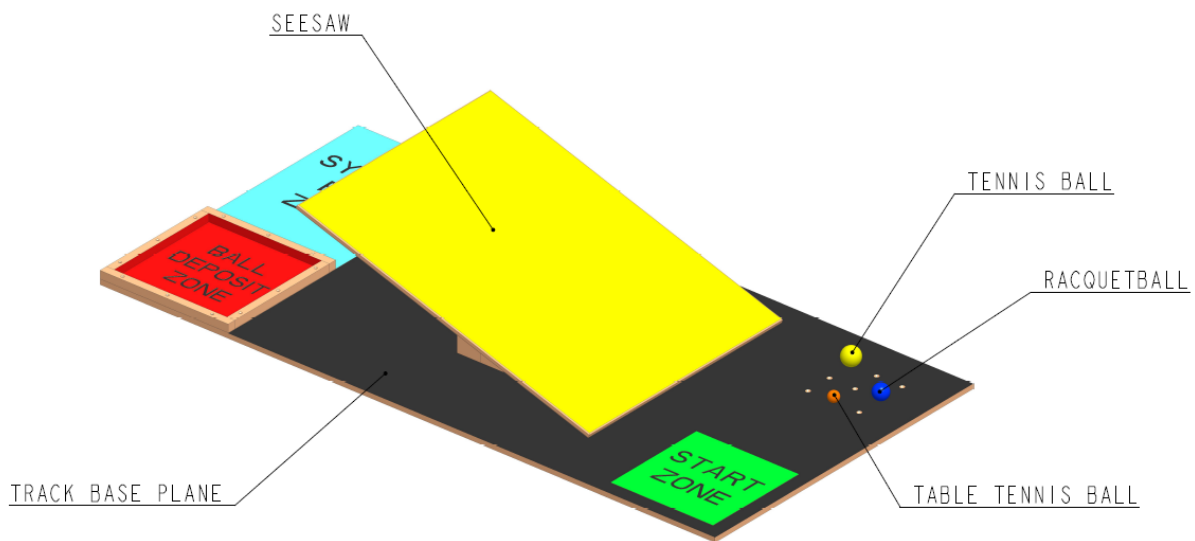

Figure 1. Schematic view of the 2025 Competition Track showing the track base plane, SEESAW, ball deposit zone and system end zone.
Prototype a reduced scale, proof-of-concept transport system, later referred to as the "system", which will precisely deliver scale representations of the meteorites, from their respective settling zones to the storage bunker. Referring to Figure 1, the autonomous system will start from a safe area defined by the Start Zone. The meteorites will be simulated using a tennis ball, a racquetball and a table tennis ball (hence forth referred to as "balls") which will be randomly distributed in a 3 x 3 grid. The system must traverse narrow gaps and potentially unstable terrain which is simulated by a pivoting plane or seesaw. Size constraints require your system to fit within an imaginary 400 mm sided cube. When activated via a single starting action, your system will autonomously collect the balls, negotiate the seesaw, or narrow gaps and deliver them to the storage bunker, shown as the ball deposit zone. The maximum allowed time for the operation is 120 seconds.
- G 8. The track will be fabricated using primarily one sheet of F14 Formply, with nominal dimensions 2400 x 1200 x 17 mm, arranged as shown in Figure 1 and Appendix A (Drawings). A supporting frame below this sheet, not shown, MAY be fabricated by any convenient method. The supporting frame SHALL NOT extend beyond the perimeter of the competition track.
- G 9. The pivoting SEESAW SHALL be made from Medium Density Fibreboard \(MDF\) or equivalent sheet material (MDF will be used at the International Final), with nominal dimensions 900 x 1200 x 18 mm, arranged as shown in Figure 1 (central yellow portion) and Appendix A (Drawings). The SEESAW SHALL preferentially tilt to the side shown in Figure 1. To provide teams with sufficient grip, the upper surface and external edge surfaces of the SEESAW SHALL be coated using Dy-Mark 1L Yellow TreadRite. It is recommended that the coating is initially applied using a paint brush and then rolled whilst still wet using a UNi-PRO 160 mm Jumbo Roller Microfiber. This ensures an even distribution of the coating to the top surface.
- G 12. The Ball Deposit Zone SHALL be made using 30 x 30 mm DAR with internal dimensions of 440 x 440 mm +/- 2 mm for the assembled component, refer to Appendix A (Drawings). The Ball Deposit Zone SHALL be rigidly attached to the track base with wood screws or similar where the top surface of the Ball Deposit Zone and the competition base plane SHALL be 30 mm +/- 2 mm, as shown in Figure 1.
- G 14. The Formply base sheet with relevant features attached, not including the balls, SHALL be identified as the Competition Track as shown in Figure 1. The features include; the pivoting SEESAW and its supports in the centre of the track, the 3 x 3 grid for the random placement of the balls and the Ball Deposit Zone with defined fasteners.
- G 15. The base sheet SHALL be tilted 0.5 degrees +/- 0.1 degrees along the longitudinal axis. This MAY be achieved by raising the foreground (Figure 1) longitudinal edge of the
- G 17. The competition base plane, defined by the upper surface of the track sheet, SHALL be no less than 300 mm above the supporting floor at the International Final. The supporting table or frame is not shown in Figure 1. The track sheet MAY rest on the 2024 track and support structure.
- G 27. Prior to the start signal, the system SHALL only contact the upper surface of the competition track within the Start Zone. The system microelectronics MAY be initialised but SHALL not perform any functions. The overall system SHALL fit within a virtual 400 mm cube with one surface of the cube parallel with the upper surface of the competition track base plane, as indicated as the Start Zone of Figure 1.
- R 14. After setup, the plan projection of the system SHALL lie fully contained within the Start Zone and supported by the competition track nominally horizontal surface. The installed system SHALL be fully contained within a virtual cube with 400 mm sides inside the competition track periphery, designated as the Start Zone of Figure 1. One face of the